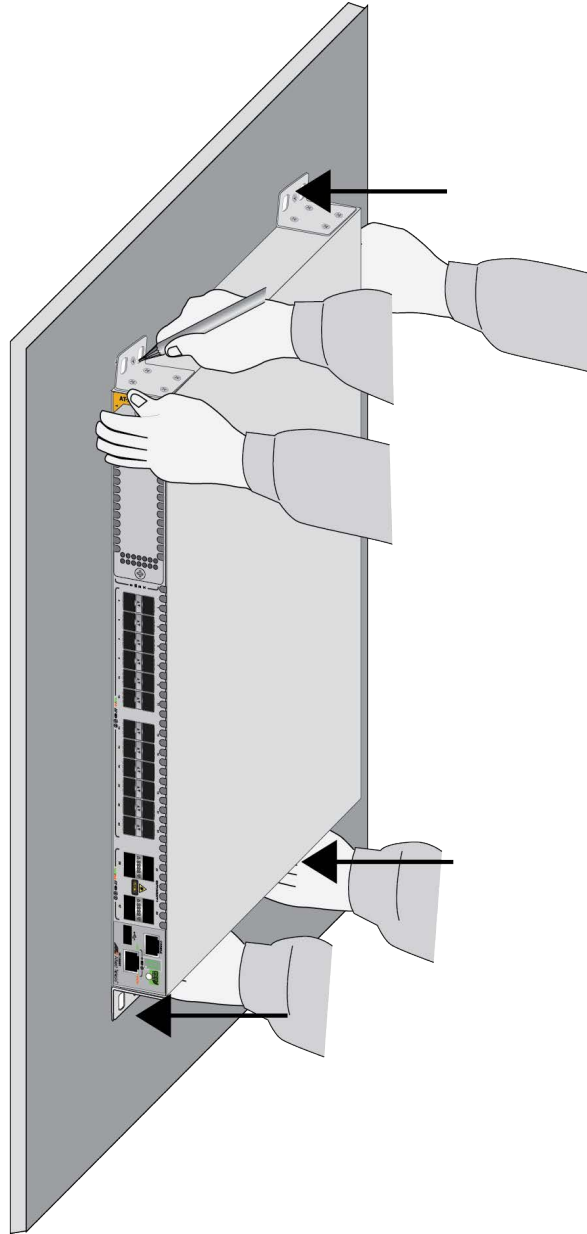

Figure 99. Marking the Locations of the Bracket Holes on a Concrete Wall
3. Have two people hold the switch on the concrete wall at the selected location for the device while you use a pencil or pen to mark the wall with the locations of the four screw holes in the four brackets. Refer to Figure 99 on page 168.